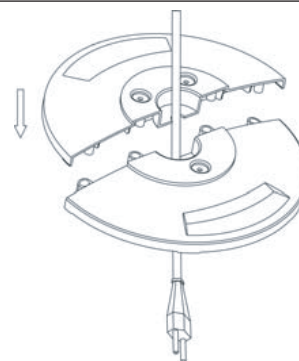

Fig 2
2. Assemble the two pieces of the base with power wire passing through the center, see Fig. 2.